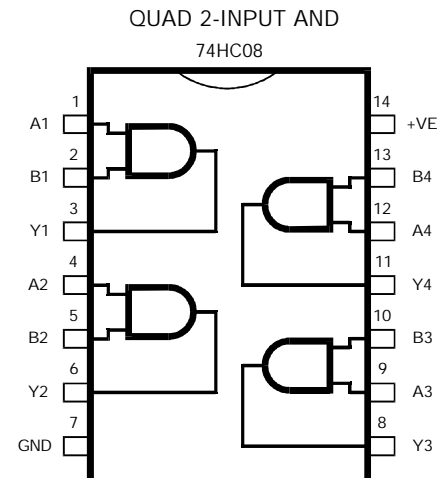

Fig. 6.2. Pinouts for a 74HC08 2-input AND gate.
From your bag of components, select a 74HC08 integrated circuit (IC). This IC is another digital electronic device (as are the 74HC04 and 74HC14 inverters you have already been using). It is a quad 2-input AND gate, and as such has four separate AND gate circuits within it. Its pinouts are shown in Fig.6.2.